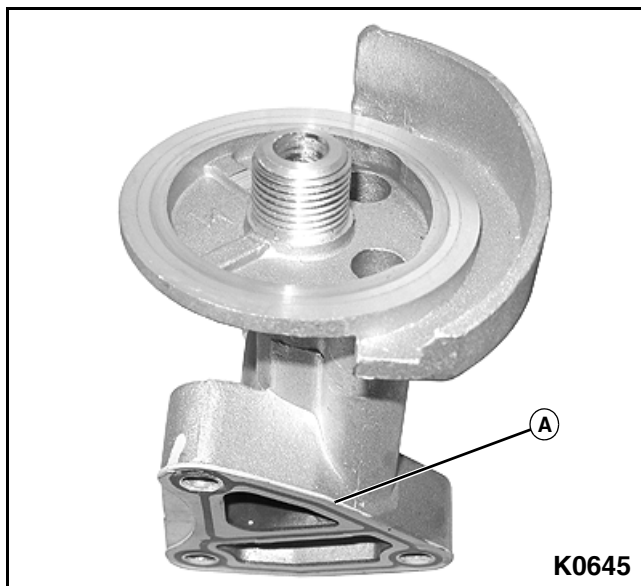

Figure 3-112
5. Remove old gasket (A) from oil filter base. **See Figure 3-112.**